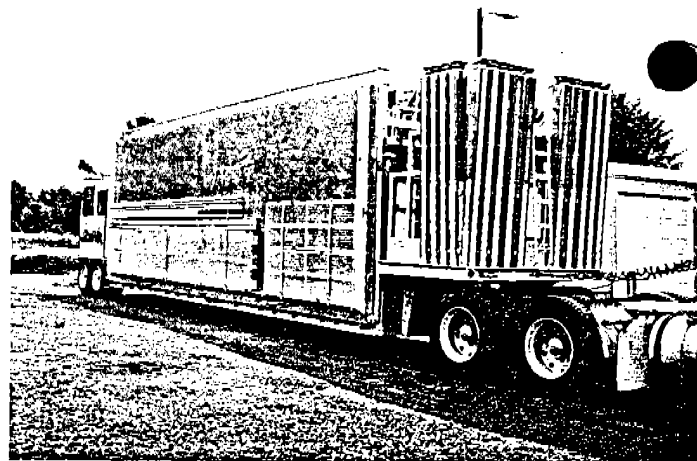

FIGURE 2
3. **REMOVING TRACTOR: (IMPORTANT)** Lower front hydraulic jacks until trailer weight is 95% off tractor springs. Lower and pin mechanical support stands so all weight is on stands. (See Figure 2).
4. **LEVELING TRAILER:** Place a level on trailer gooseneck and rear trailer frame. Ride may now be leveled in an even plane, using proper blocking under support stands. (See Figure 2).